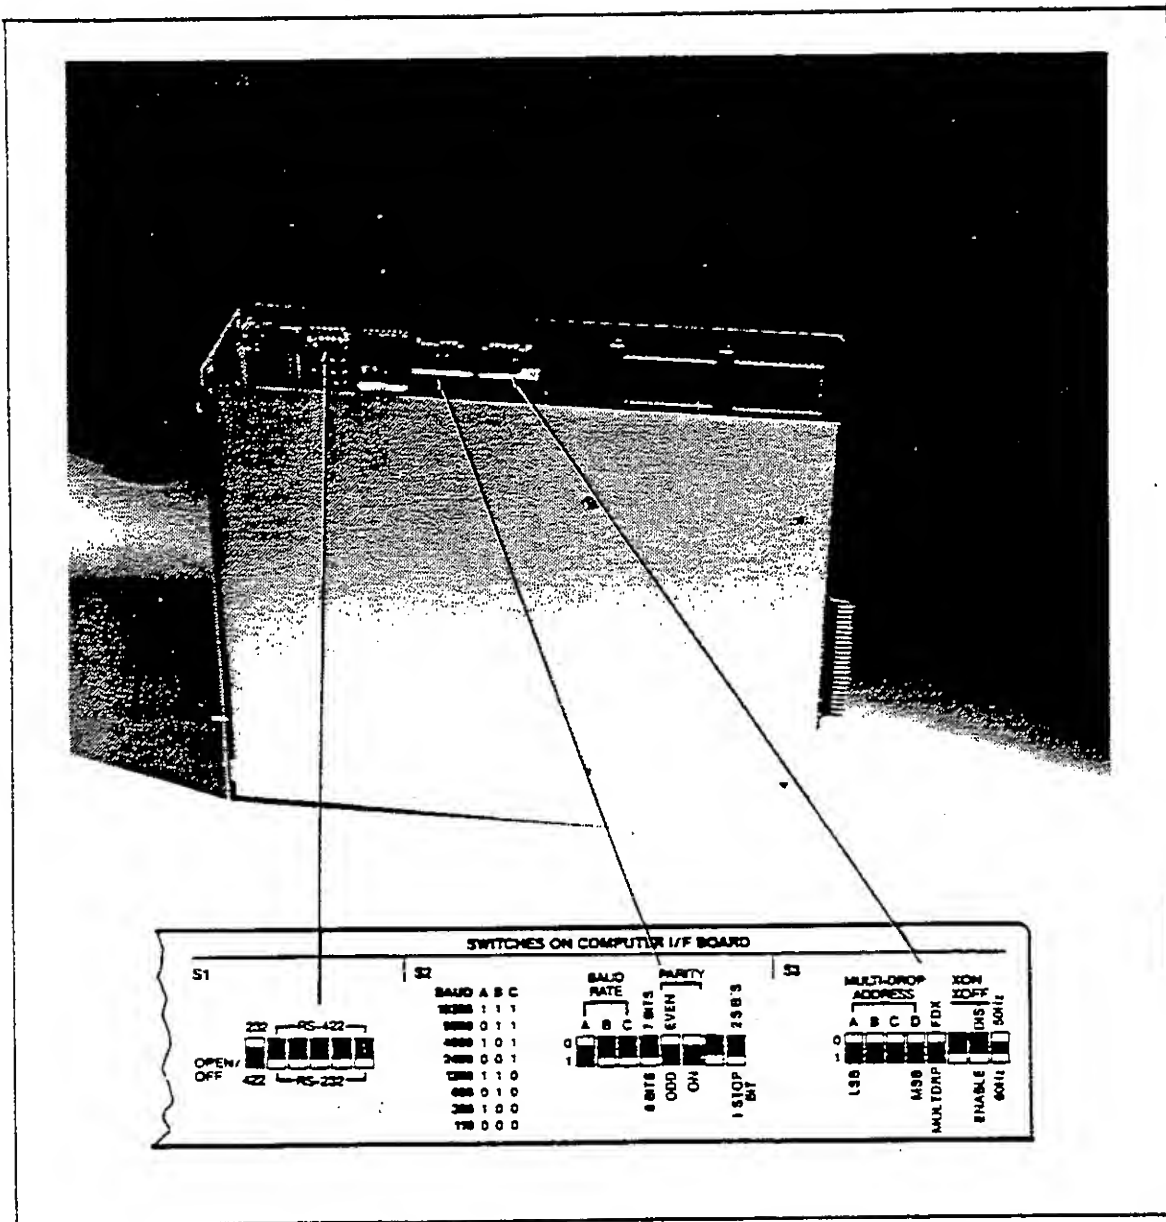

Figure 4-4. Communication Parameter Selection Switches
6. While the Computer Interface Module is out, locate the Line Frequency Selection Switch, S3-8, (see Figure 4-4) to ensure that it is set to the local line frequency.